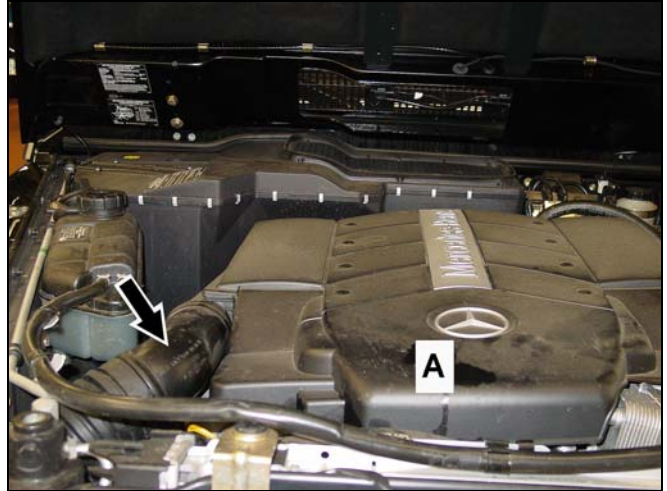

Figure 2
- Remove right air intake duct (arrow, Figure 2).
- Remove front section of upper engine cover (A, Figure 2).